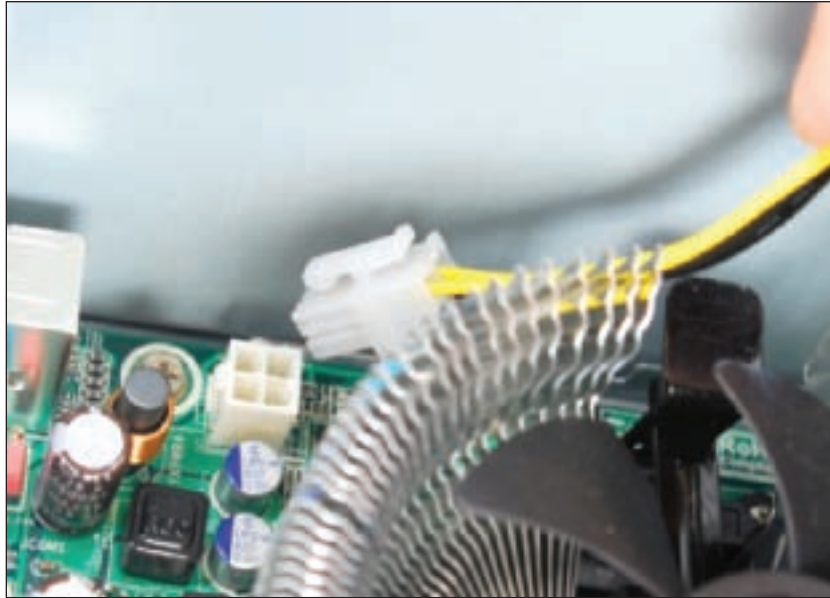

Figure 5-50 The auxiliary 4-pin power cord provides power to the processor
- ▲ Connect the 4-pin auxiliary power cord coming from the power supply to the motherboard, as shown in Figure 5-50. This cord supplies the supplemental power required for the processor.